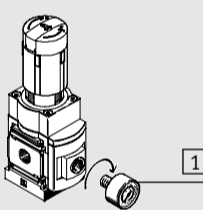

Fig. 2
1. Screw the precision manometer MAP [1] in a clockwise direction into the adapter plate (→ Fig. 2).